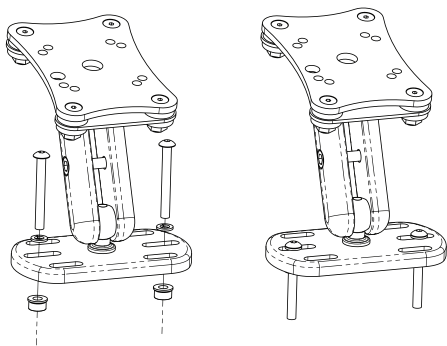

Figure 2
4. If the brake reservoir has 2 screws, use the appropriate Hex Key to fasten the Base Plate to the brake reservoir cover with the appropriate length M4 Screws, M4 Lock Washers, and M4 Spacers, or M5 Screws, M5 Lock Washers, and M5 Spacers as shown in Figure 2.